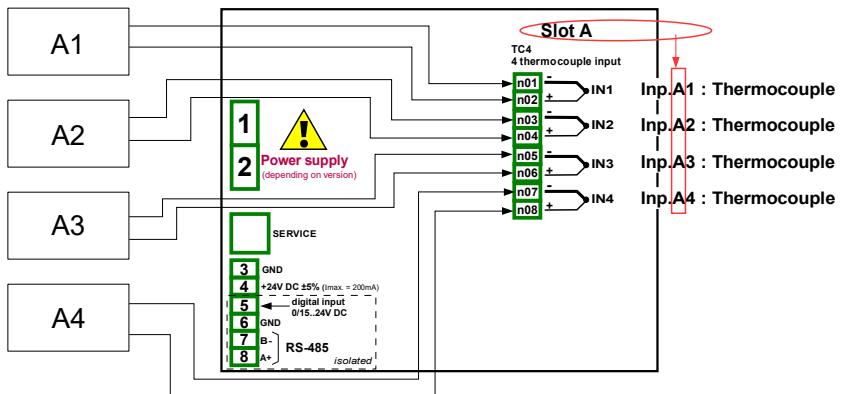

Fig. 7.69. Schematic diagram for the TC4 module
Before measuring temperature the thermocouple sensors should be connected to the device. An example of the connection is shown in **Fig. 7.69**.
- Source parameter set as **Inp. A1: Thermocouple** (see the connection in **Fig. 7.69**),
- **Source** parameter set as **Source - Inp. A2: Thermocouple** (see Fig. 7.69),
- Source parameter set as **Source - Inp. A3: Thermocouple** (see Fig. 7.69),
- Source parameter set as **Source - Inp. A4: Thermocouple** (see Fig. 7.69),